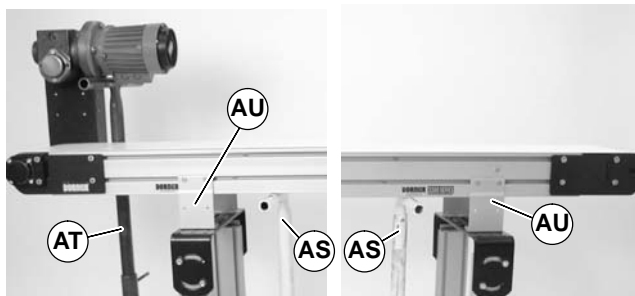

Figure 21
1. Place temporary support stands (AS of Figure 21) at both ends of the conveyor. Place an additional support stand under the drive motor (AT), if equipped. See **WARNING**.
2. Remove mounting brackets (AU of Figure 21) from one side of conveyor. (Reverse steps 3 & 4 of "Mounting Brackets" section on page 6).
1. Ensure temporary support stands (AS of Figure 21) are placed at both ends of the conveyor. Place an additional support stand under the drive motor (AT), if equipped. See **WARNING**.